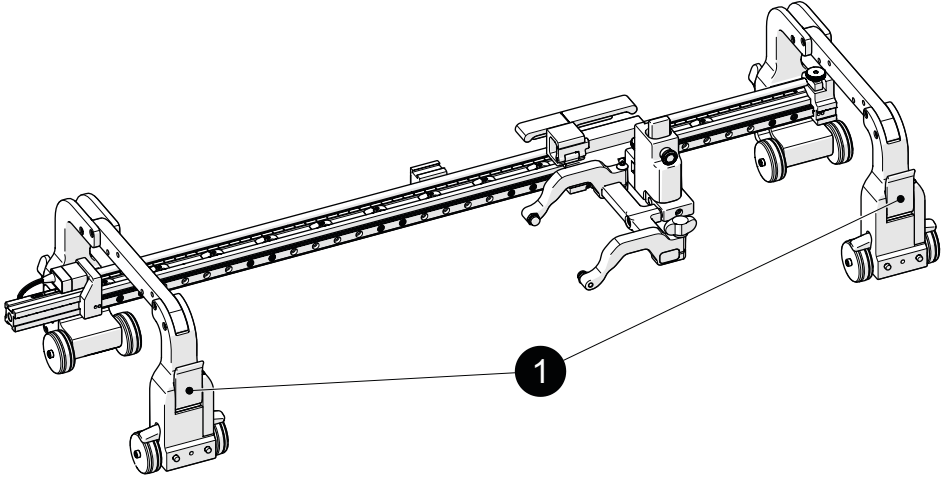

Fig. 5 - Configure scanner and set brakes
1. Ensure the appropriate configuration is setup (*Fig. 5*). Install the wedge to be used in the probe holder (*see Heavy Duty Vertical Probe Holder on page 12*).